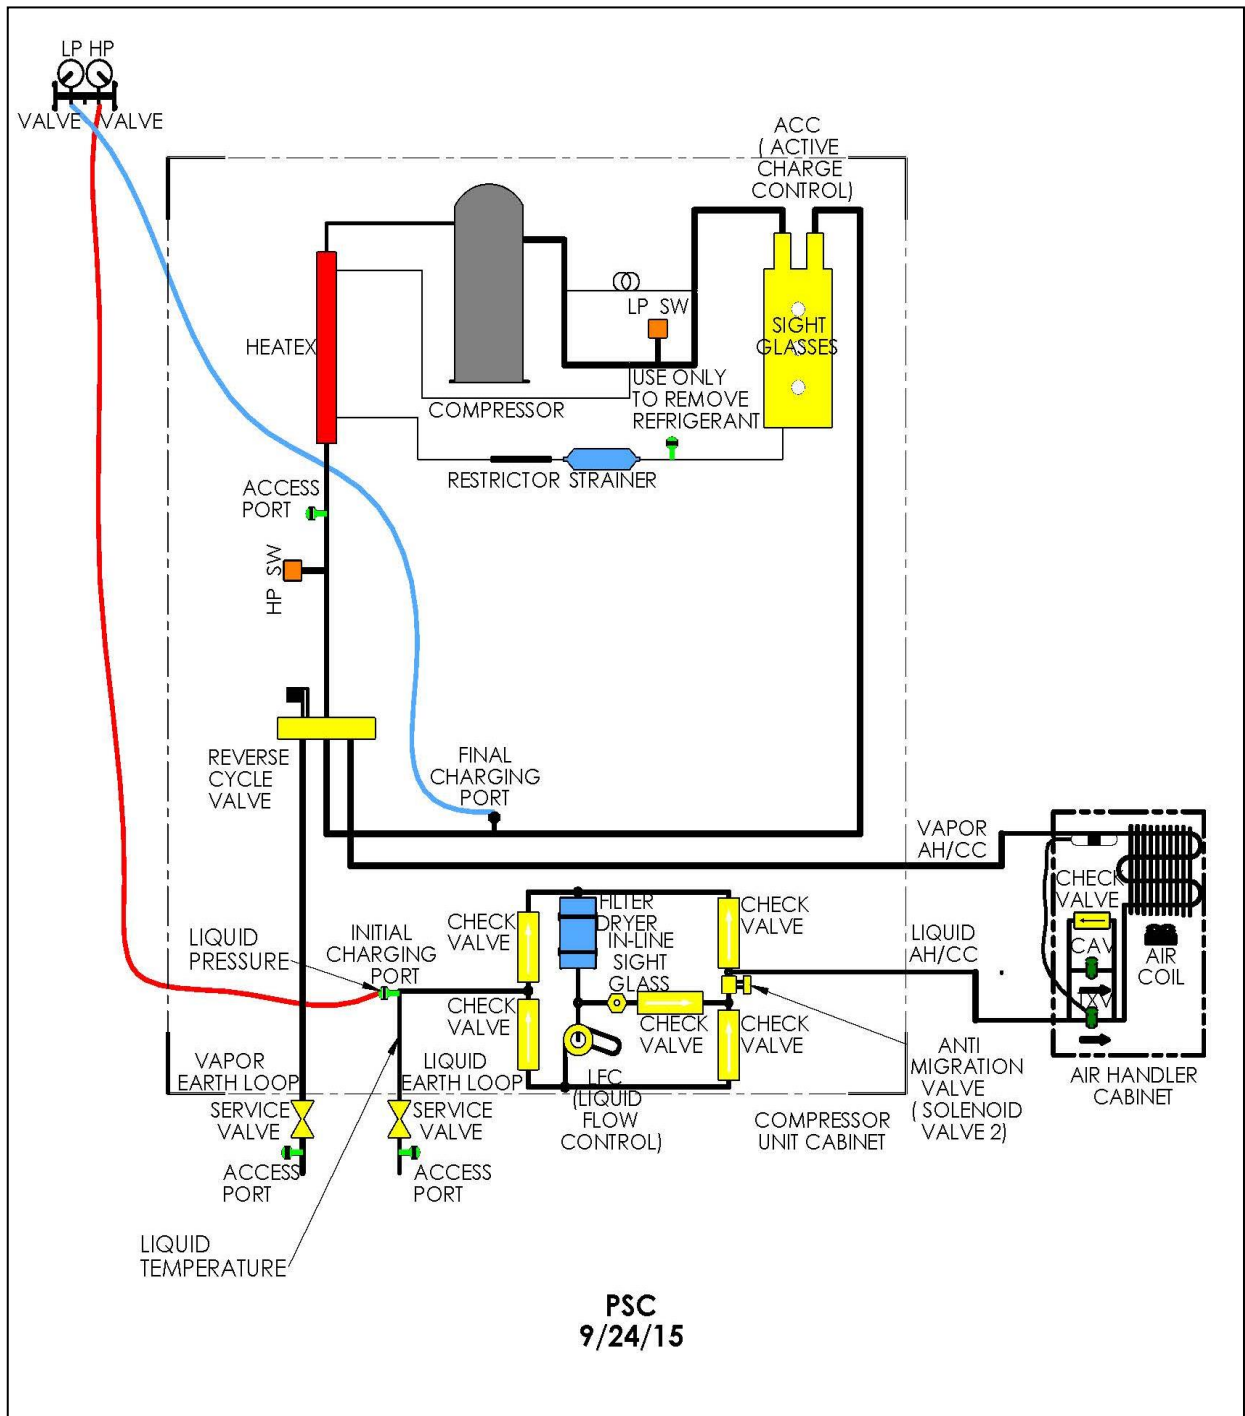

Figure 33. Subcooling Measurements
5. The subcooling is to be checked and adjusted if necessary to ensure that it is **no more than 5°F.** The subcooling is checked by first disconnecting the high side hose from the compressor discharge access port and reconnecting it to the initial charging port as shown in Figure 33. Read the liquid line pressure.
6. Read the liquid line temperature just inside the compressor unit at the same location as in step 4 and as shown in Figure 33.